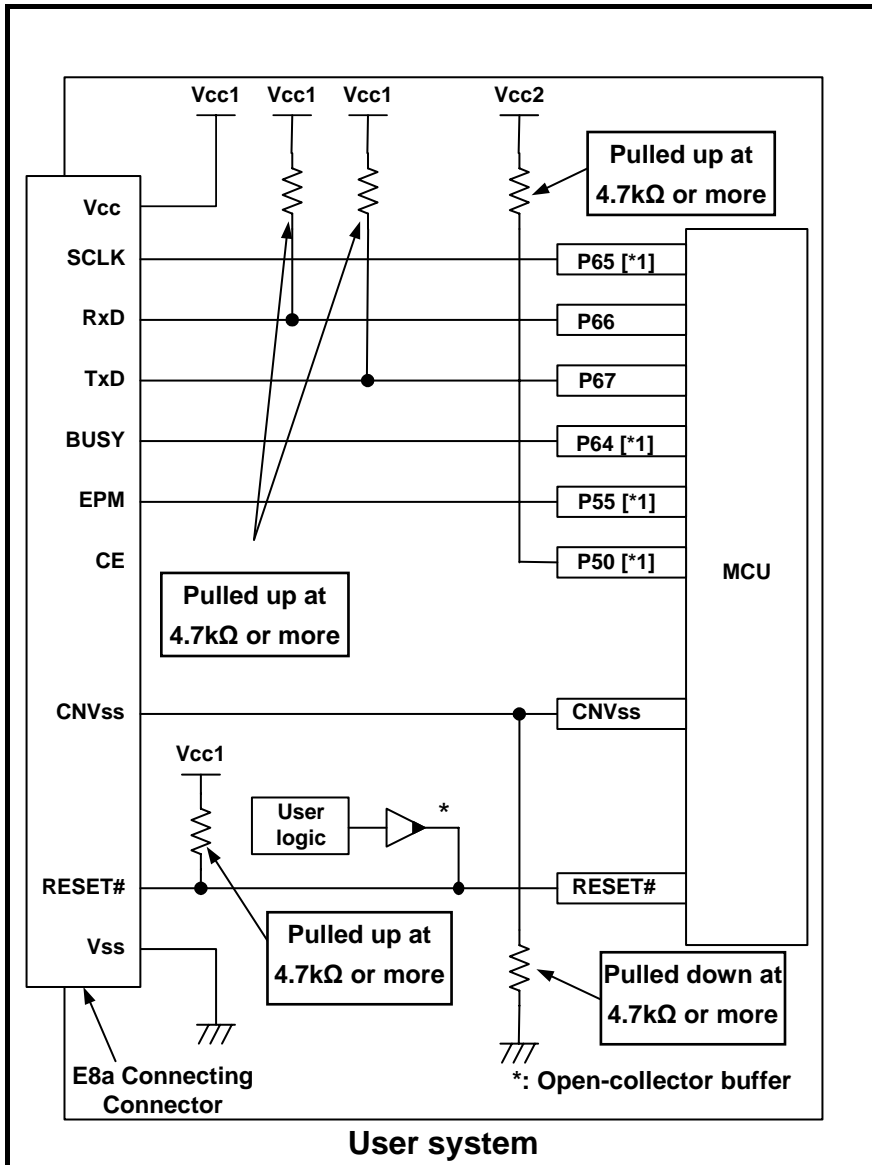

Figure 4.3 Example of an E8a Connection (Dual Power Supply and Single-chip Mode)
- Dual power supply and single-chip mode: See Figure 4.3.